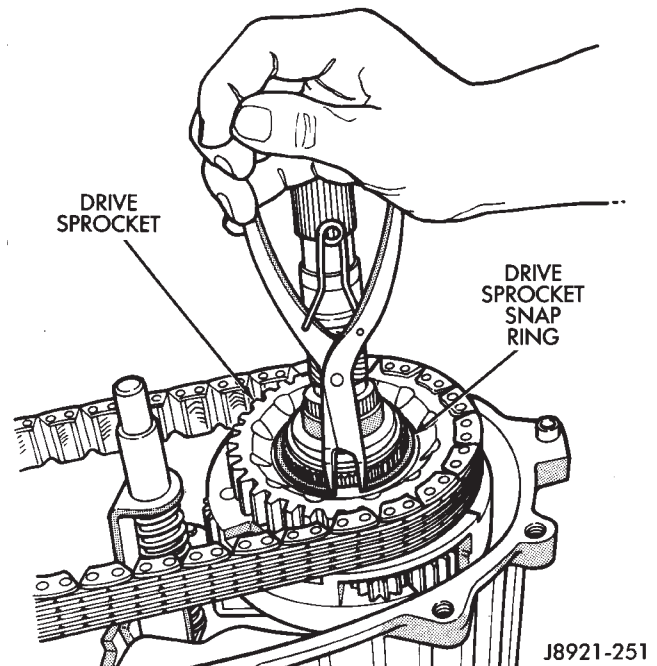

Fig. 69 Drive Sprocket Snap Ring Installation
(54) Install drive sprocket snap ring (Fig. 69).